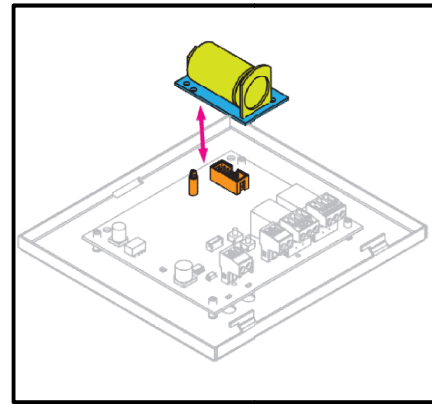

Figure 10: Sensor Module Replacement
3. Unplug the sensor module by pulling the sensor module firmly away from the main board (Figure 10).
4. Plug the new sensor module into the vacant 'Sensor 1' location, then press the module firmly until the nylon standoff (shown in Figure 10) has 'snapped' the bottom-left side of the module board.